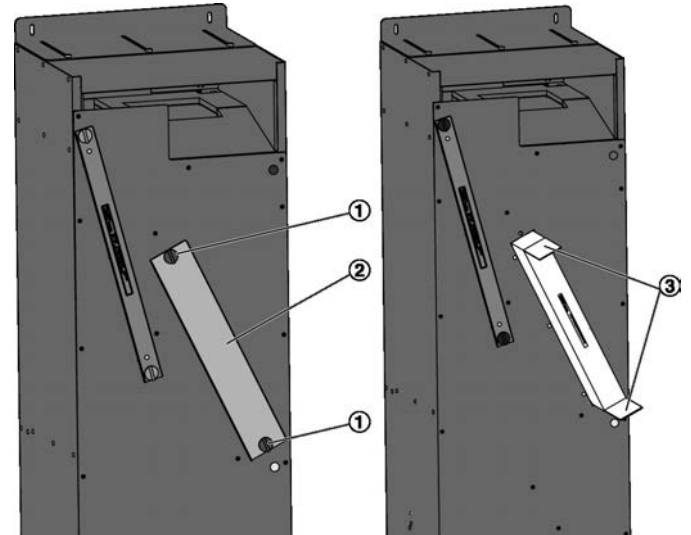

Fig. 21: Fine dust filter
- 3. ▶** Open the fasteners (Fig. 21/1) by turning them ($\frac{1}{4}$), then remove the filter chamber cover (Fig. 21/2).
Hold the filter by the lugs (Fig. 21/3) and pull it from the filter chamber.
When you insert a filter, make sure that the two lugs (Fig. 21/3) stick out from the filter chamber and that the writing is legible.